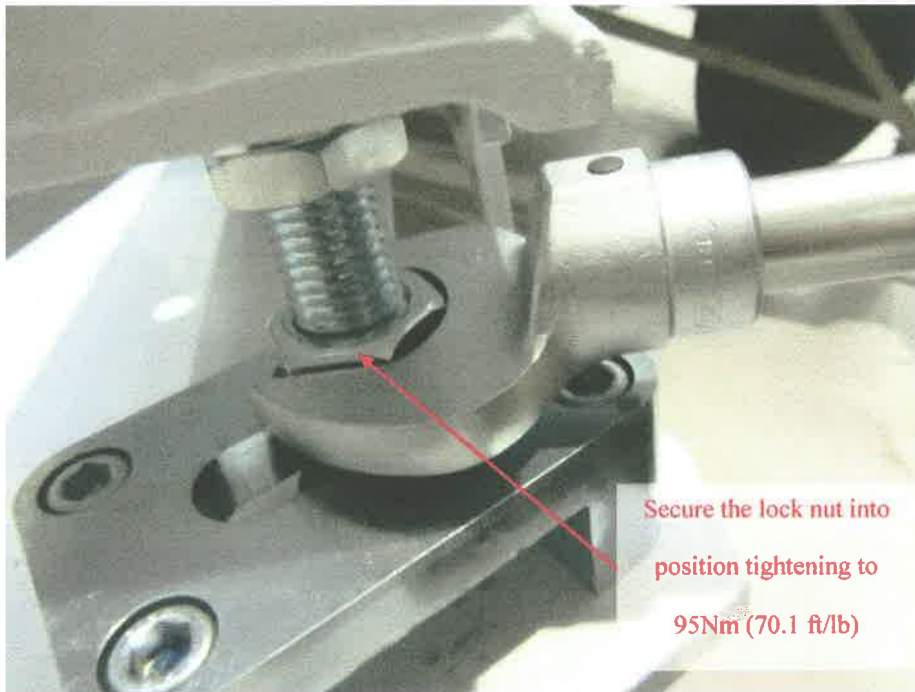

Figure 10
9. Set the torque wrench to 95Nm (70.1 ft lb)and, once this setting is confirmed, turn the lock nut in a clockwise direction until the torque wrench 'cracks off' (clicks), identifying that the torque figure has been achieved see figure 10.